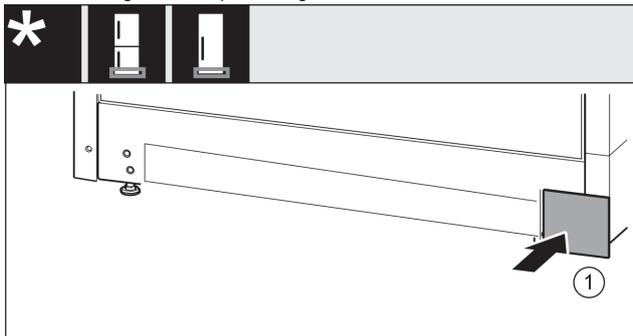

Fig. 50
- ▶ Re-attach the cover Fig. 50 (1) to the other side.